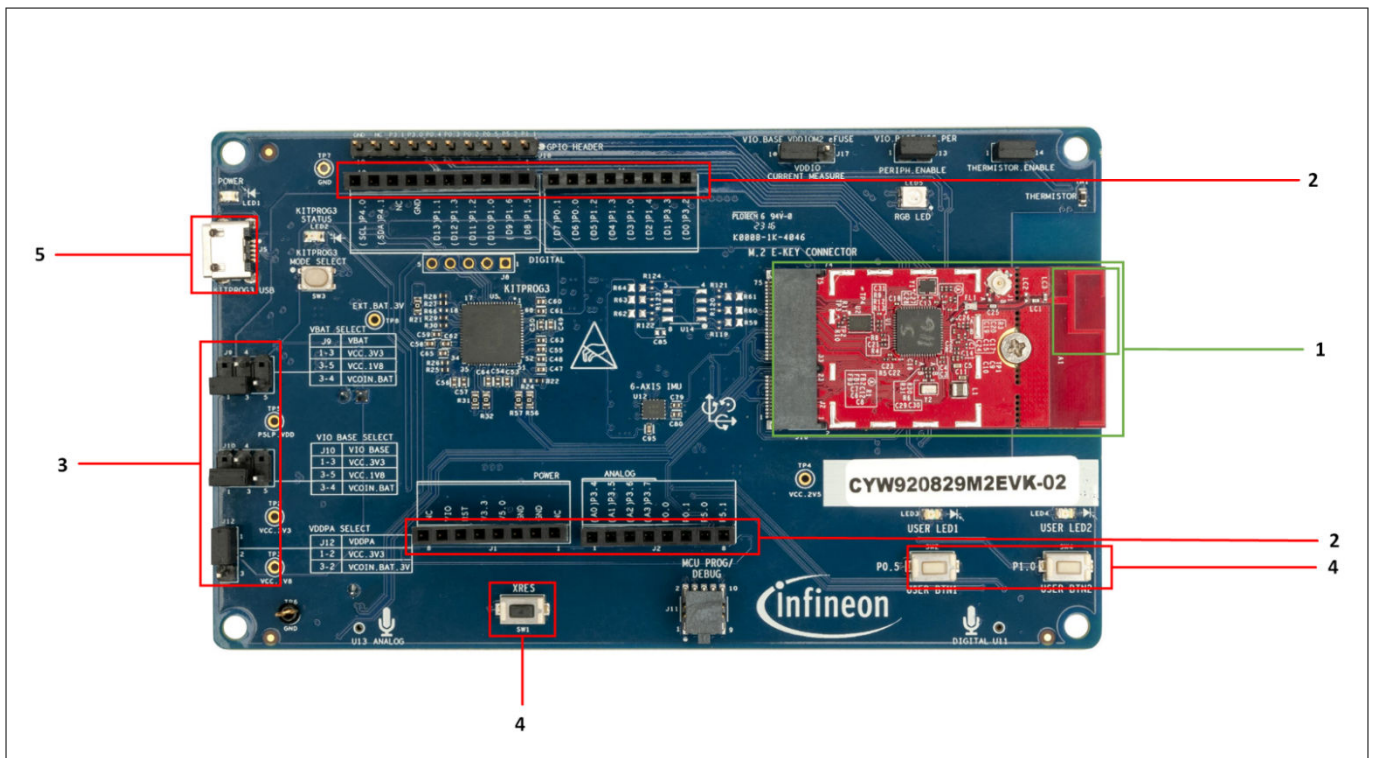

Figure 2 CYW920829M2EVK-02
Figure 2 shows CYW920829M2EVK-02 with the following features:
1. Verify that all the jumpers are in the default configuration as shown in Table 2 to Table 7 so that the peripheral UART is selected and can display embedded application trace messages. Figure 2 shows the default jumper locations